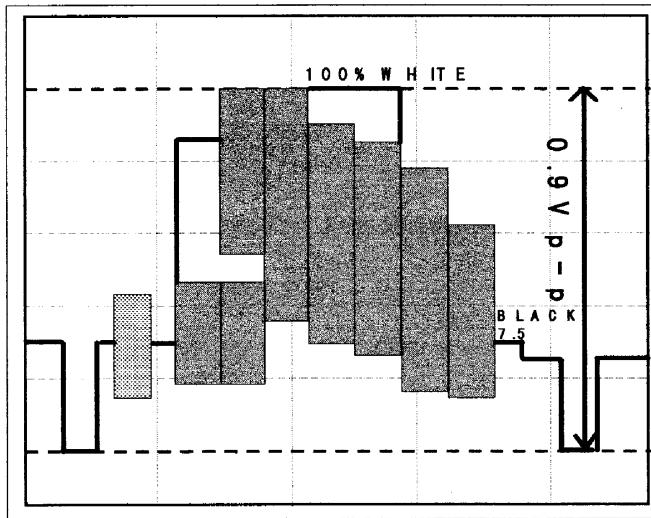

Fig. 7
6. Adjust VR701 to get the waveform at TP10 and TP4 is $0.9\text{Vp-p} \pm 0.1\text{Vp-p}$ same with the waveform at probe 1. (Refer to Figure 7)